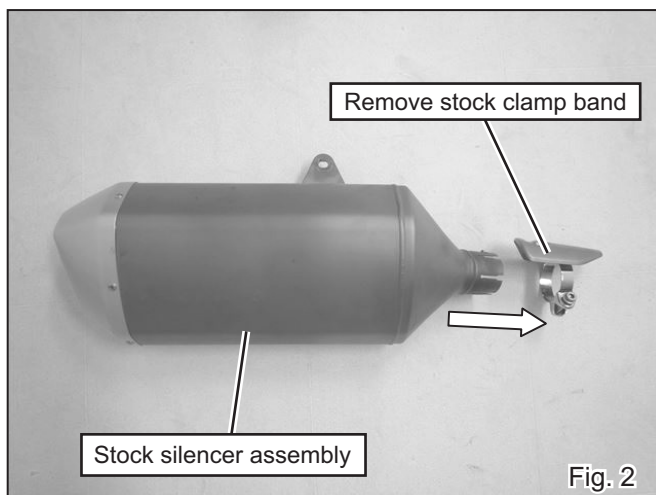

Fig. 2
- 3) Remove stock clamp band from stock silencer assembly if the vehicle is either 2017 or 2018 year model (See Fig. 2).